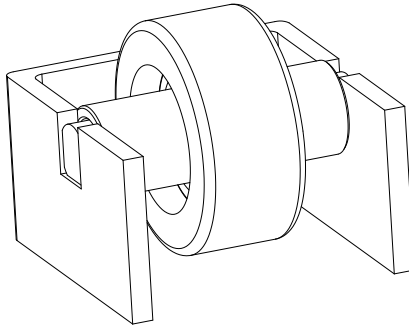

**FIG 5-1**
- 2.1) Open one cover plate between the turntable and the stanchion (fixed by four screws). Lubricate the transmission chain of the turntable with an appropriate amount of grease carefully. Coat lubricating grease on the whole chain transmission (Fig.5-1). (maintenance once every 3 months recommended)